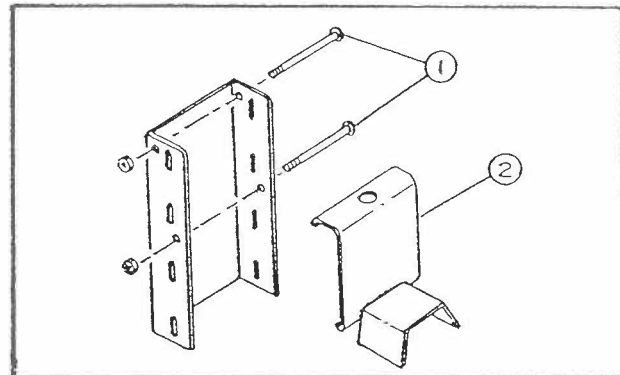

FIGURE 11
- f) Install one 1/4" x 7 1/2" bolt (fig.11, item 1) through top holes in reduction box and secure loosely with lockwasher and nut.
- g) Hook reduction box cover (fig.11, item 2) over the bolt and secure the cover with a second 1/4" x 7 1/2" bolt, lockwasher and nut. Tighten both bolts securely.